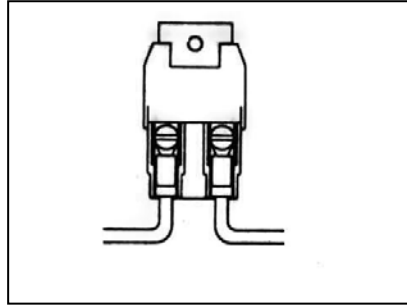

Figure 7-3 Maxi Fuse
7.4.1 With crimping tool, attach Maxi Fuse (**Figure 7-3**) onto end of ENGINE SECTION A (single) 10 ga. wire #716 (red) AFTER having routed wire from the Fuse Panel to the Starter Solenoid. This serves as a fuse to protect the entire harness. DO NOT OMIT IT!
- 8.5.1 With crimping tool, attach Maxi Fuse (Figure 7-3) onto end of ENGINE SECTION A (single) 10 ga. wire #916 (red) AFTER having routed wire from the Fuse Panel to the Starter Solenoid. This serves as a fuse to protect the entire harness. DO NOT OMIT IT!